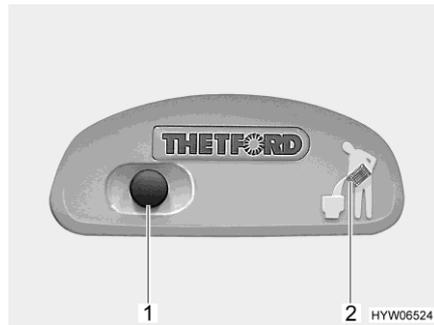

Fig. 297 Flush button/indicator lamp
- For flushing, press the blue flush button (Fig. 297,1 or Fig. 298,1).
The indicator lamp (Fig. 297,2 or Fig. 298,2) lights up whenever the sewage tank has to be emptied.